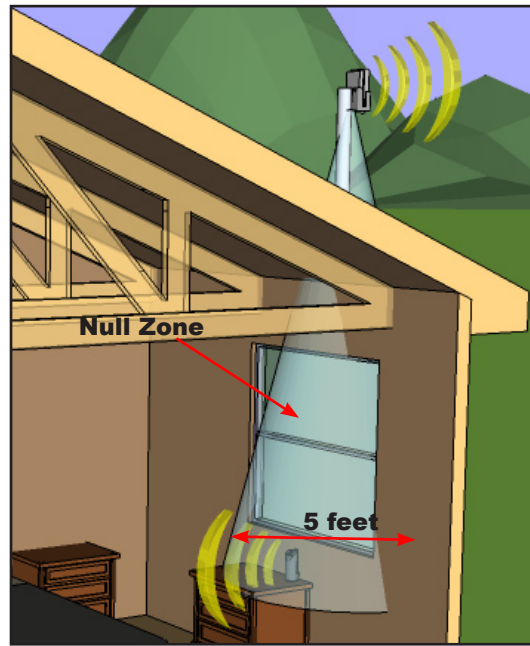

Figure 7-1: BEST: Outside Pole Mount Option
If your installation maintains at least 15 vertical feet of separation distance but the red light remains illuminated, then relocate the Desktop Antenna more directly beneath the position of the outside antenna, inside the imaginary Null Zone of Signal (See Figure 7-1 & 7-2). Make sure the relocated Desktop Antenna observes rules 1 & 2 on page 5.
1. Select a location on the roof where the outside Cradle Antenna can be mounted on a pole directly above the Desktop Antenna with at least 15 feet vertical separation. See Figure 7-1.